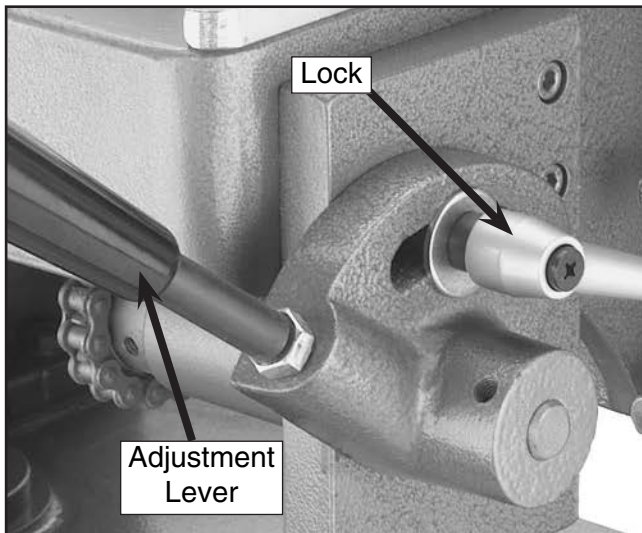

Figure 18. Roller height adjustment controls.
1. Loosen the lock on the adjustment lever shown in **Figure 18**. Moving the lever up will raise the table rollers up.